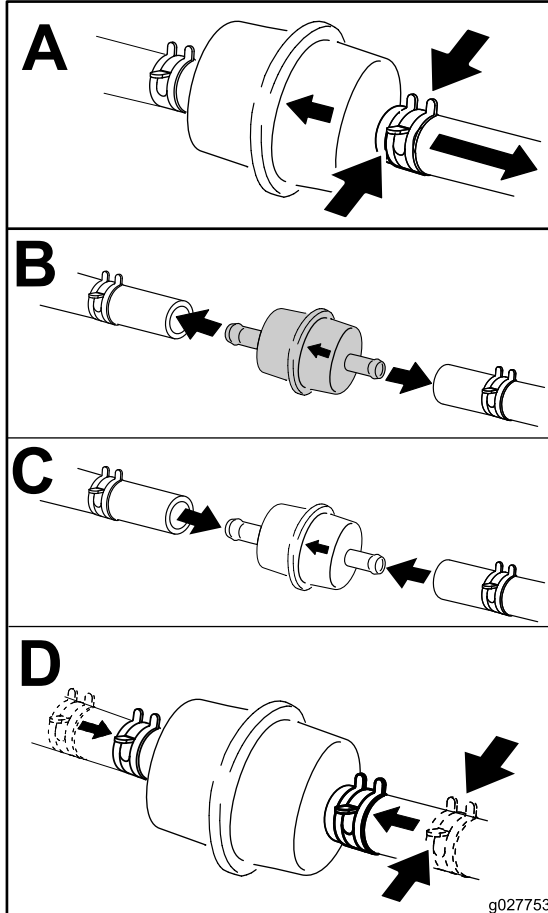

Figure 36
3. Replace the in-line filter (Figure 36).